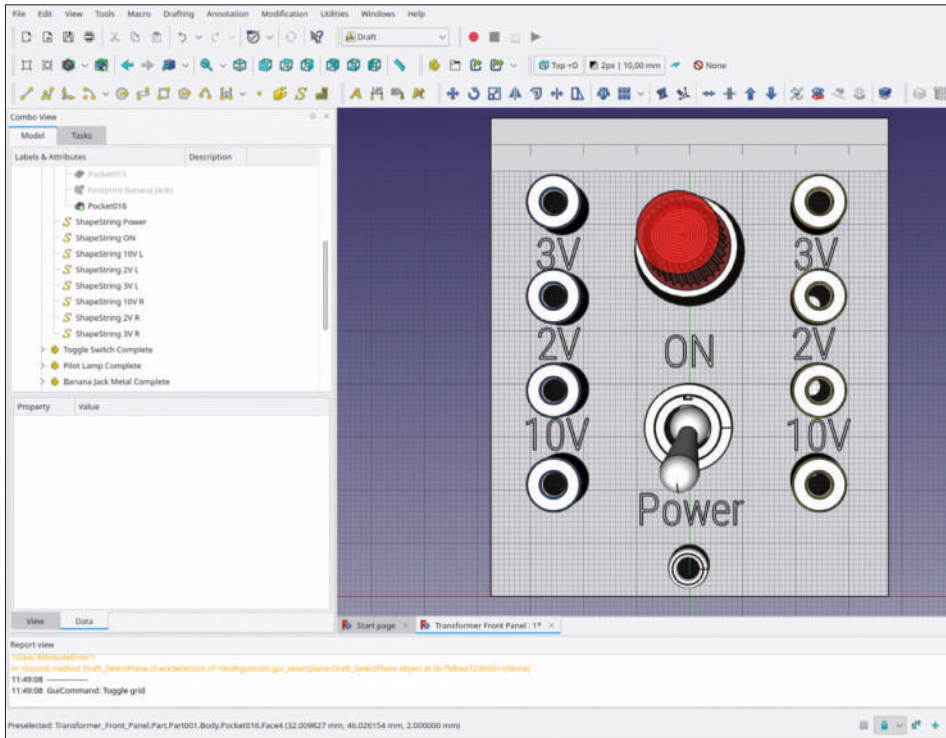

Figure 9-37
6. As shown in Figure 9-37, in each row, place a '10V' label between the lower two insulated banana jacks, between the center ones a label reading '2V'. Between the upper ones, place a label with '3V'.